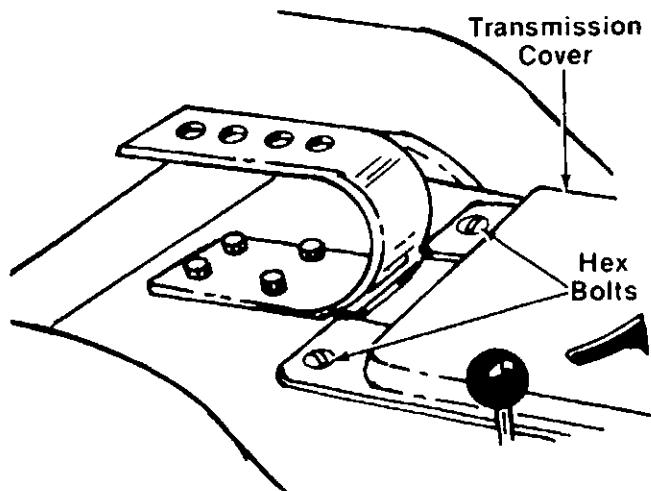

FIGURE 5.
2. Remove the two hex bolts which secure the transmission cover. See figure 5.